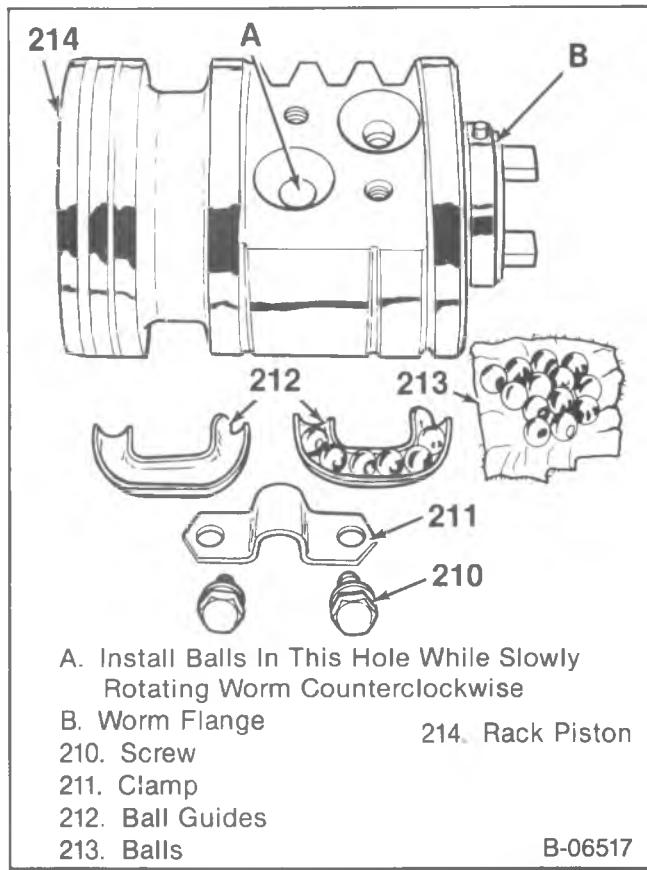

Figure 13—Installing the Balls into the Rack Piston
2. Balls (213), alternately by color, in the rack piston (214) (figure 13). Use J-21552 in the rack piston.